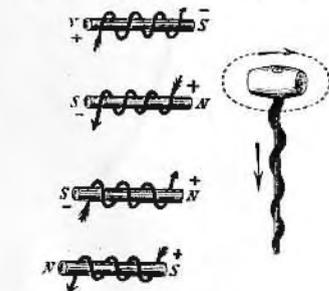

FIG. 192
(1) Rule of Direction. The end of the iron, which is nearest to the observer, is a north pole, if the current (positive) flows counter-clockwise, and a south pole when it flows clockwise. (See Fig. 192.)
(2) Pen Rule. If the pen-holder be the wire and if the current flows in the direction of the ink, then the north pole is at the thumb.
(3) Maxwell's Corkscrew Rule. If the current flows in the direction in which a corkscrew turns, the lines of force flow in the direction in which the corkscrew moves endwise. That is, if the current flows around a core, with a right-hand